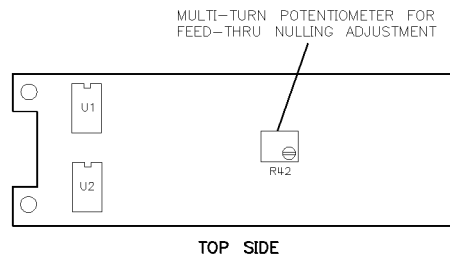

Figure 5-3. Feedthrough Nulling Adjustment
12. Locate the Feedthrough Null multi-turn potentiometer which is on the top side of the PC board, (the same side as the cable wires). Adjust it one half turn (either direction). See Figure 5-3.